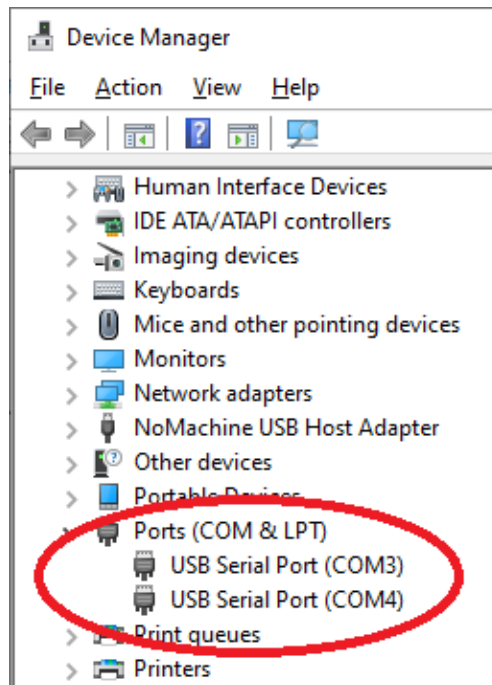

Figure 8 - USB COM Port with ATM2/ATM3 EVK
- Figure 8 - USB COM Port with ATM2/ATM3 EVK
If there are 2 COM ports listed in the device manager after plugging-in the Atmosic EVB to the laptop, please click the Install RDI Interface shortcut in the Start Menu/Atmosic folder. See Figure 8.